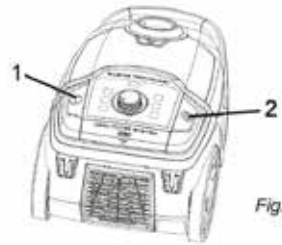

Fig. 15
1. Switch off the vacuum cleaner at the on/off switch (Fig. 15/1) and pull the plug from the mains socket.
3. To retract the power cord, push the cord retracting button (Fig. 15/2).